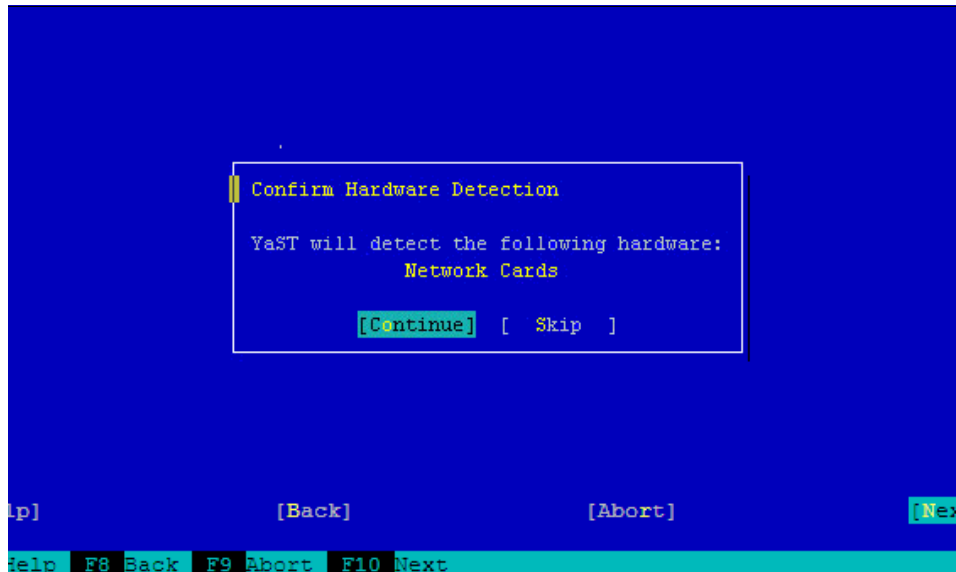

Figure 9-24 Confirm hardware detection window
17.After booting from the appropriate storage device YaST will start again. Select **[Continue]** for each hardware device YaST detects, as shown in Figure 9-24 on page 385.